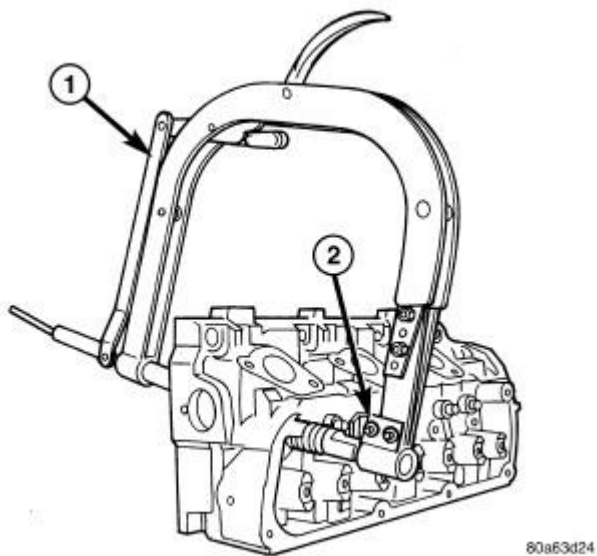

Fig. 83: Removing/Installing Valve Spring
3. Using Special Tool (special tool #C-3422-D, Compressor, Valve Spring) with (special tool #8464, Adapter, Valve Spring) Adapter, compress the spring only enough to install the valve retainer locks. Refer to **Fig. 83**. Install valve retainer locks.